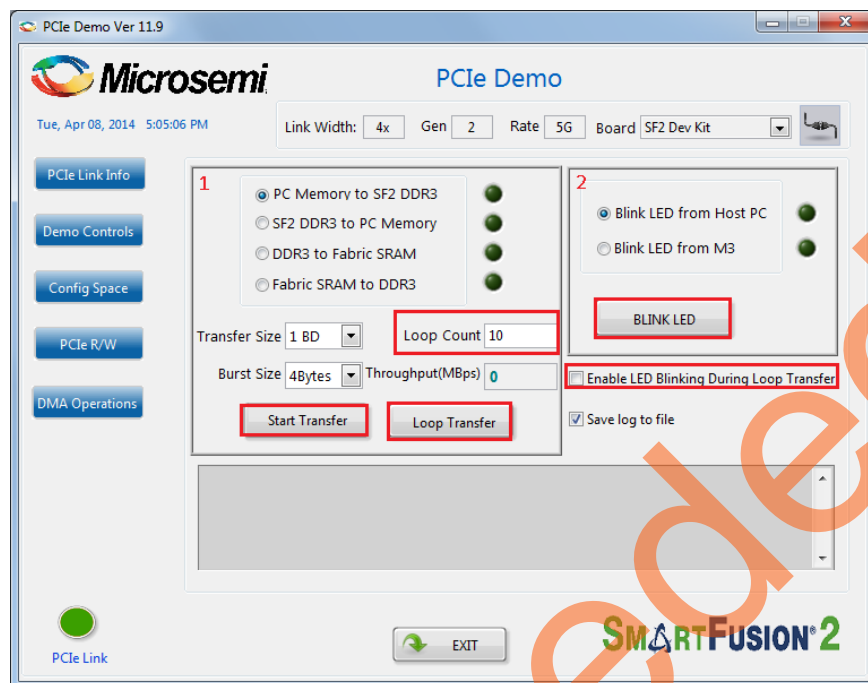

Figure 15 • DMA Operations
5. Click **DMA Operations**. The controls are displayed as shown in Figure 15.